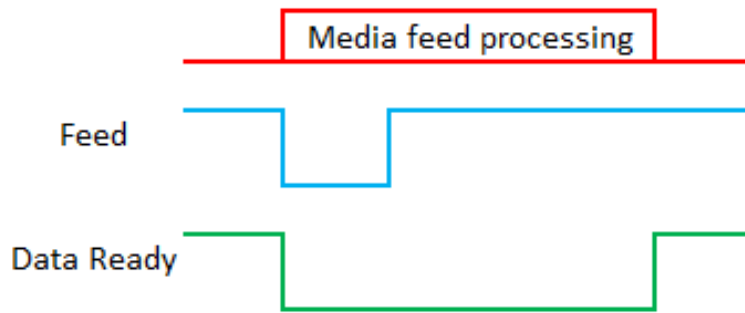

Figure 5
- c. The timing chart is shown in Figure 5.